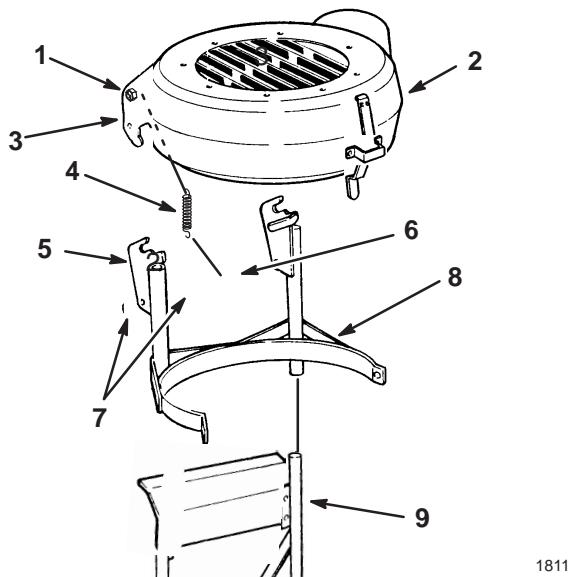

Figure 14
1. 5/16"-18 Locknut (4)	7. 3/8"-16 x 2-1/4" (57 mm) Bolt (2)
2. 11/32" (9 mm) Flat Washer (4)	8. 1/2"-13 x 1" (25 mm) Bolt
4. 5/16"-18 x 5/8" (16 mm) Bolt (4)	10. 1/2"-13 Locknut
6. 3/8"-16 Locknut (2)	12. Hairpin Cotter
- Align the canister support over the bagger mount tubes and slide it down onto the bagger mount (Fig. 14).
1. Upper Pivot Bracket (2)	5. Canister Support
2. Locknut (12)	6. 3/8"-16 x 1-1/4" (32 mm) Top Bracket Pivot Bolt (2)
3. Lower Pivot Bracket (2)	7. 3/8"-16 x 2-1/4" (57 mm) Lower Spring Anchor Bolt (2)
4. 3/8"-16 x 1-3/4" (44 mm) Upper Spring Anchor Bolt (2)
- Install the upper pivot brackets and attached top assembly onto the lower pivot brackets on the canister support so the 3/8"-16 x 1-1/4" (32 mm) top bracket pivot bolts fit into the notches in the lower pivot brackets (Figs. 14 and 15).
- Hook the springs over the bolt heads on the upper and lower spring anchor bolts on the pivot brackets (Figs. 14 and 15).